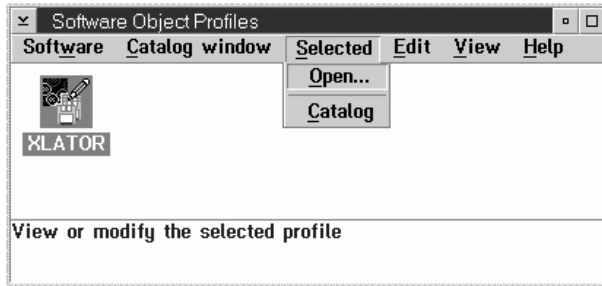

Figure 110. Software object profile window
2. Select **Catalog** from **Catalog** menu bar choice, as shown in Figure 110 on page 192.